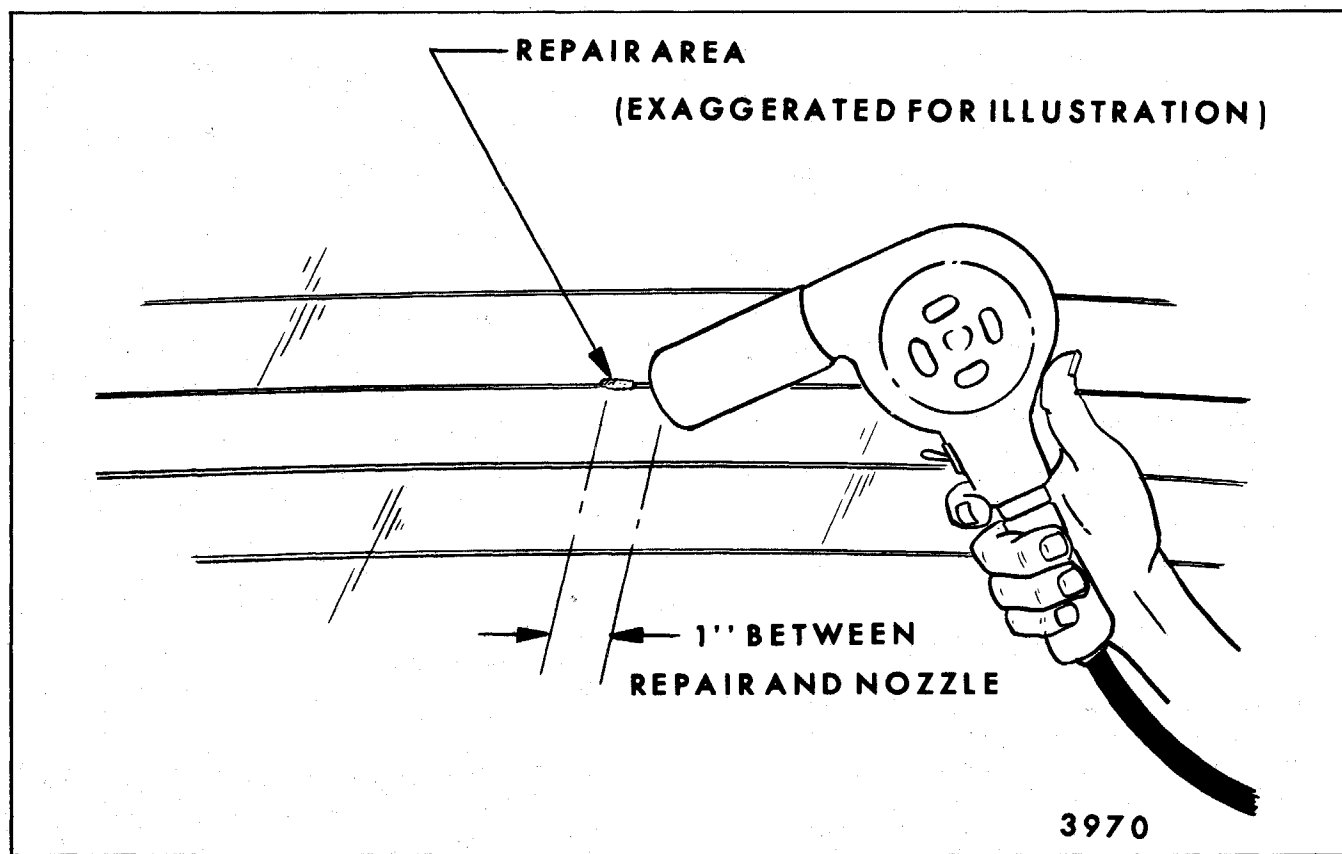

Fig. 10-88-Applying Heat to Grid Line Repair
9. Apply a constant stream of hot air directly to the repaired area with a heat gun (preferably 500 degrees F to 700 degrees F range) for 1 to 2 minutes. Heat gun nozzle should be held approximately 1" from repair (minimum of 300 degrees F is essential for establishing conductivity) see Figure 10-88.